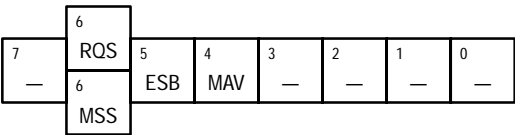

Figure 3-5: The Status Byte Register (SBR)
**The Status Byte Register (SBR).** The SBR, shown in Figure 3-5, records whether output is available in the Output Queue, whether the VXOA41 requests service, and whether the SESR has recorded any events.